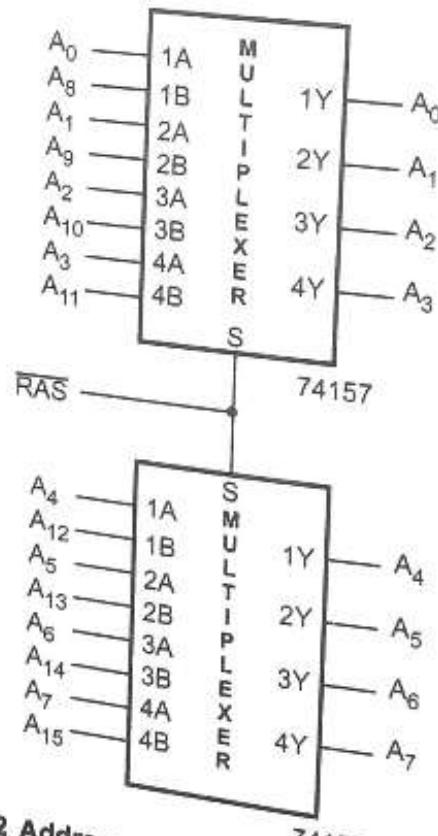

Fig. 3.3.2 Address multiplexer for 64×4 DRAM
- Fig. 3.3.2 shows the circuit for multiplexing $A_0 - A_7$ and $A_8 - A_{15}$ address lines. Here, \overline{RAS} line is used to strobe row address into the DRAM. When \overline{RAS} is low row address is strobed and when \overline{RAS} is high column address is strobed into the DRAM.